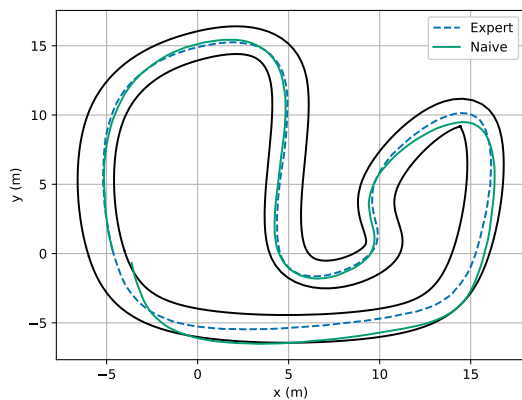

Figure 6. Model Based Optimization.
A scheme describing (20) is shown in Figure 6. As in Figure 4 we have a feedback loop at the top representing the dynamical system and a feedback loop at the bottom representing the controller. The difference is that in Figure 6 the top feedback loop represents a model of the true dynamical system. The feedback loop at the bottom solves (20). This finds a policy that is optimal at controlling the *model*. Which need not be, indeed, it most likely is not, the same policy that is optimal at controlling the true dynamical system.
**Task 6** Solve the optimization problem in (20) for the dynamical system defined by the parameters  $\mathbf{A}$  and  $\mathbf{B}$  learned in Task 4. Use as a reference trajectory one of the trajectories that you used for validations in Task 4. Use MSE loss as figure of merit.
The main conclusion of Task 7 is summarized in Figure 6. This conclusion is that model based optimization fails at controlling the car. The challenge is, as usual, that errors accumulate over time.